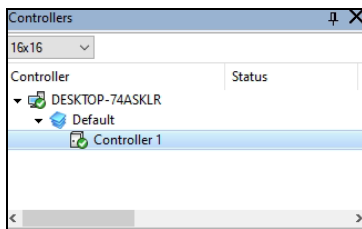

Figure 4-5
2. For details on disconnection messages displayed on the Status field (Figure 4-5), see *Appendix D. Controller Status*.